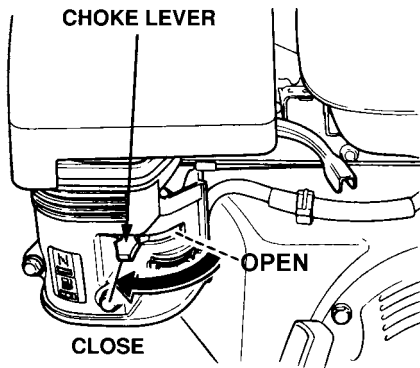

Figure 20. Choke Lever
- Place the **Choke Lever** (Figure 20) in the "**CLOSED**" position.
7. If the engine has started, slowly return the choke lever (Figure 20) to the "**OPEN**" position. If the engine has not started repeat steps 1 through 5.